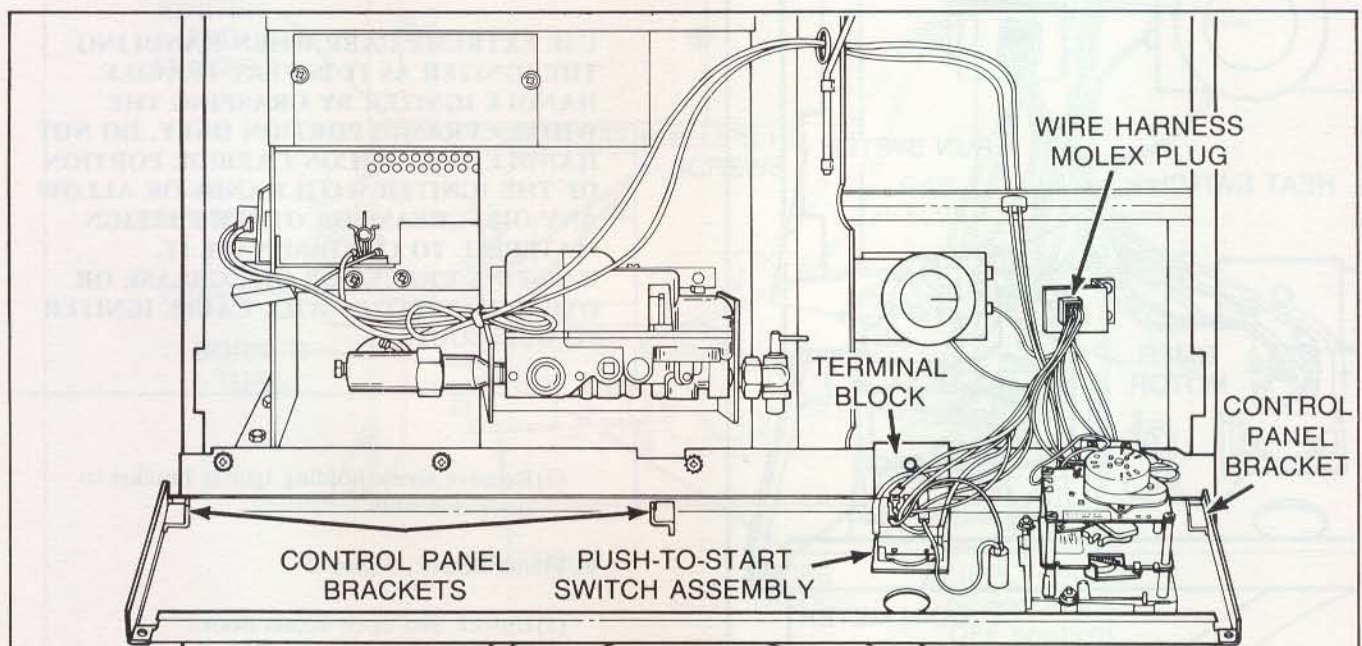

Figure 2
- c. Lift control panel off brackets, *Figure 2*.
- d. Disconnect wire harness at the Molex plug, *Figure 2*, and remove control panel.
- b. Remove two Phillips head screws holding start switch assembly to control panel, *Figure 2*.
3. **TERMINAL BLOCK** (Refer to Figure 2)
- c. Lift control panel off brackets, Figure 2.
- d. Disconnect wire harness at Molex plug, Figure 2, and set panel aside to prevent damage.
- d. Disconnect wire harness at Molex plug, *Figure 2*, and set control panel out of the way to prevent damage.